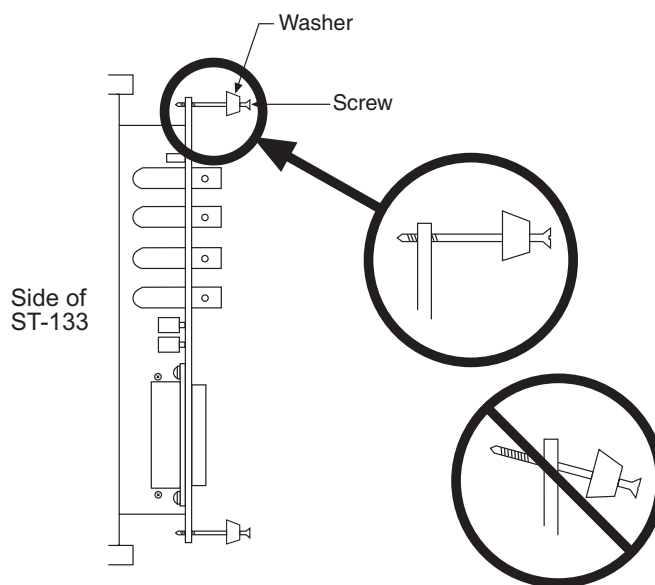

Figure 52. Module Installation
3. Rotate the two locking screws counterclockwise until the threads on the screws engage those of the module panel. *See Figure 52.* By doing this, the screws will be perfectly perpendicular to the module panel and will align perfectly when the module is inserted.